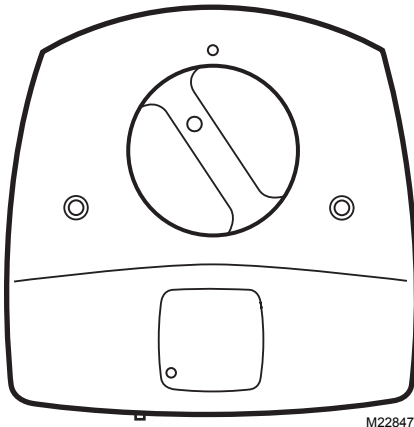
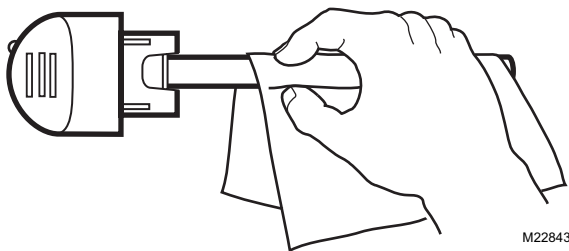

Fig. 5. Insert bulb into base unit.
Fig. 6. Use cloth to wipe fingerprints from glass.
11. Insert the bulb into the base unit with the lamp light indicator at the eleven o'clock position (left of the raised button on the unit cover). See Fig. 5. If you touch the lamp glass with your hands, use a cloth to wipe fingerprints from the glass. See Fig. 6.